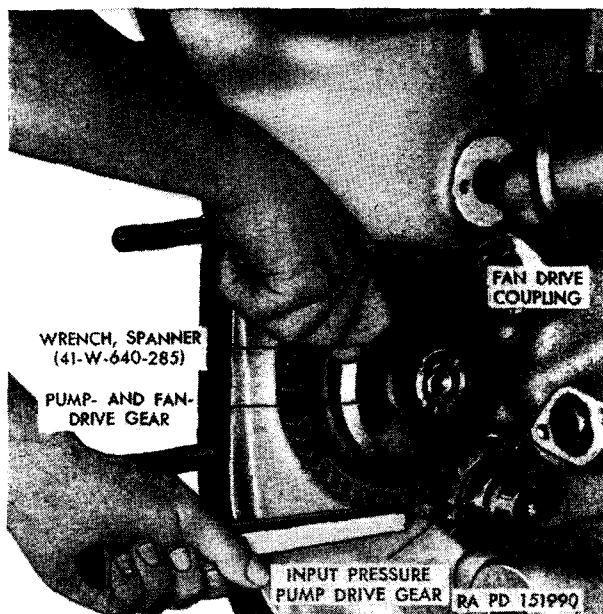
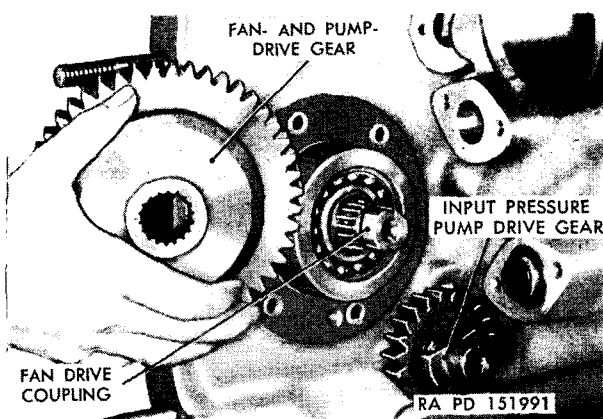

Figure 251. Removing or installing fan-drive-coupling nut.
Figure 252. Removing or installing fan and pump-drive gear.
- (1) Bend back the tabs on the fan-drive lock washer. Using a soft drift between the fan and pump drive gear and the input pressure pump drive gear, remove the nuts from the fan and pump drive coupling with the aid of a spanner wrench (41-W-640-285) (fig. 251). Pull the fan-drive gear from the fan drive coupling (fig. 252).